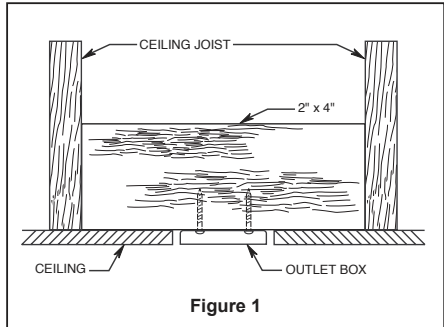
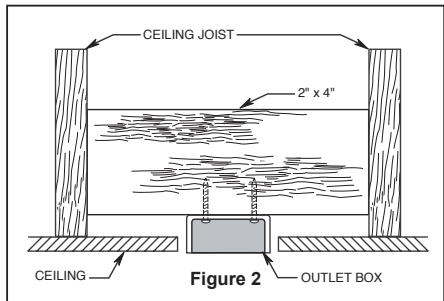
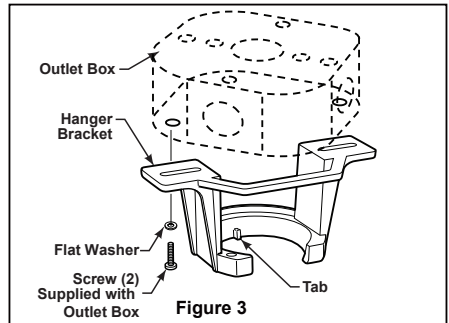

Figure 1
Figure 2
Figure 3
Your new ceiling fan will require a grounded electrical supply line of 120 volts AC, 60 HZ, 15 Amp Circuit. Electrical code requires use of a fan-rated outlet box to support the extra weight and motion associated with a ceiling fan. A fan-rated box will be labeled as such and typically supports up to a 70lbs ceiling fan. Fan-Rated Outlet Boxes vary in ratings and design. Ensure the ratings of your ceiling fan outlet box meet the requirements for the ceiling fan being installed. Figure 1, Figure 2 and Figure 3 depicts different structural configurations that may be used for mounting the outlet box.
Low-profile use (Figure 1)
Deep-profile use (Figure 2)
Brace use (Figure 3)
3. Loosen the two set screws and locking nuts in the downrod support of the motor assembly. Route the black/white, blue, red, gray, yellow wires through the downrod. (Figure 3)
1. Securely attach the hanger bracket to the outlet box (not included) using the outlet box screws and washers supplied with the outlet box. (Figure 3)
2. Slide the receiver into the hanger bracket before wiring as shown in figure 3.
- 3. Remove the battery cover from remote control by screwdriver and retain the screw for later. (Figure 3)